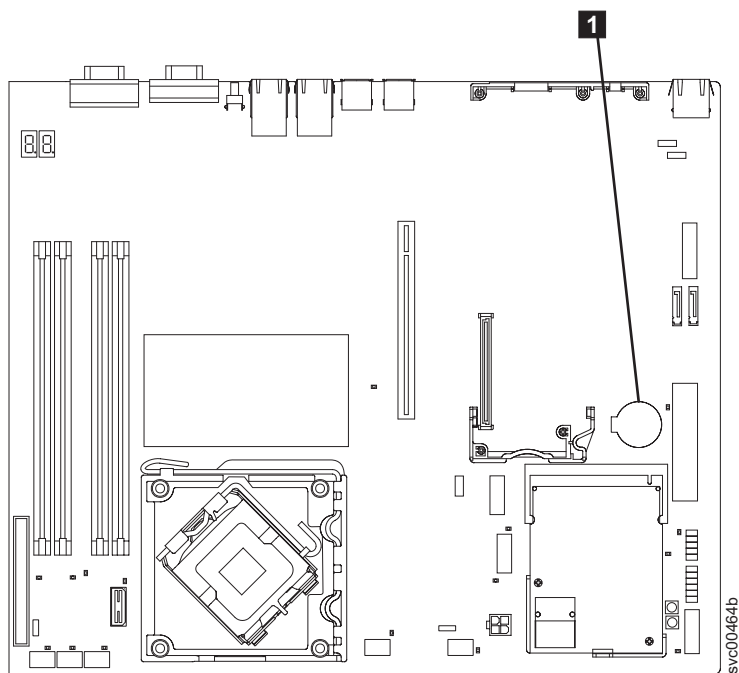

Figure 142. Locating the SAN Volume Controller 2145-8A4 CMOS battery
**1** in Figure 142 shows the location of the battery.